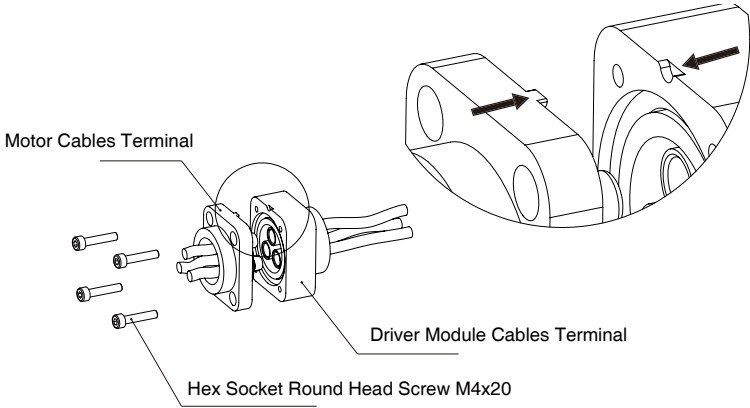

Figure 3-3
Step 3: Connect the motor cables terminal with the driver module cables terminal. Align them first (refer to Figure 3-3) then plug in. After two terminals are properly connected, lock them by four M4 screws.